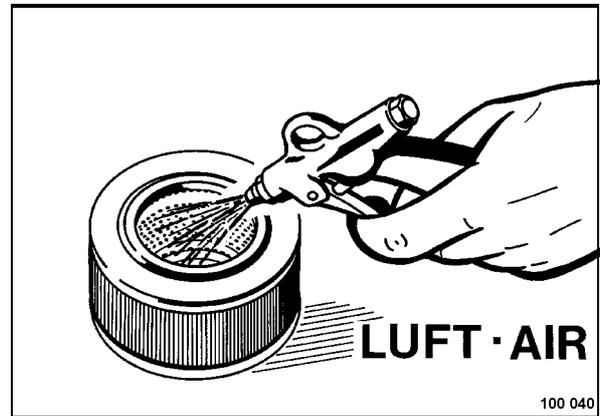

Fig. 55
- Blow the filter cartridge (Fig. 55) out with dry compressed air (max. 5 bar) from inside to outside.